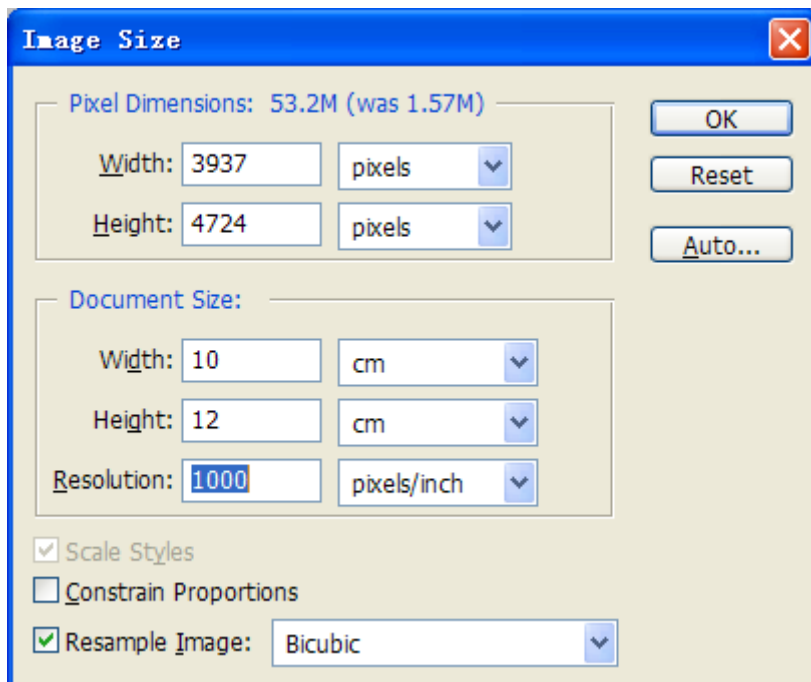

Figure 5-3
- 2、 In the column Document Size/ Height and Width, input the value you wanted, figure 5-3 followed;
Such as figure 5-3: the converted graph size is 10cm*12cm, the resolution is 1000 pixels per inch;